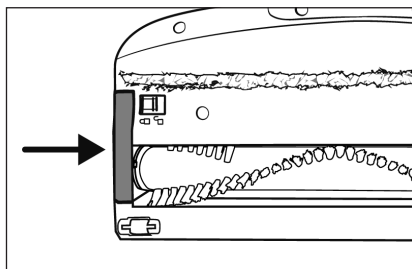

Fig. 27
- 5) Insert the rotary brush (21) into the floor brush (22). Turn the rotary brush (21) slightly to make it easier to insert.
- 6) Put the rotary brush holder (20) back into the floor brush (22). Push it down until it audibly clicks into the floor brush (22) (see Fig. 27).